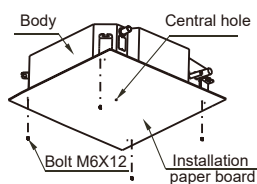

Fig.5-8
- 2 After installing the body, please fasten the installation paper board onto the fan coil unit with bolts(M6X12) to determine in advance the sizes and positions of the hole opening on ceiling. (refer to fig.5-8)